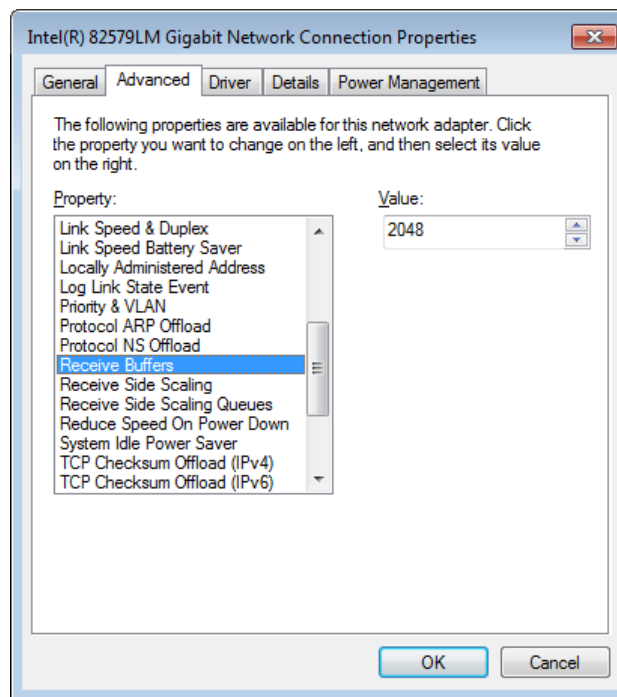

Figure 118: Network interface card - advanced driver settings - Receive Buffers
4. The settings of the driver can be accessed by choosing the *Advanced* tab of the opened window. As shown in Figure 118, raise the value of the *Receive Buffers* property to its maximum value.